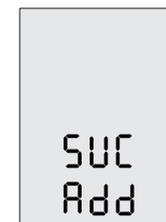

Figure 6-10
Step6: After pairing, the LCD panel will display as Figure 6-10 for 5s, then returning to home page automatically.